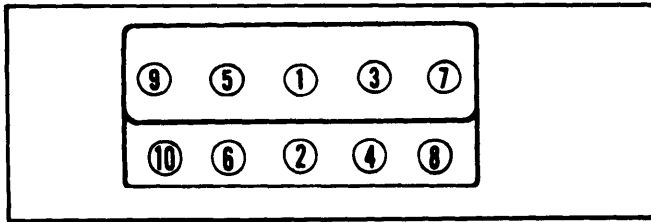

Fig. 2 Cylinder Head Tightening Sequence
2) Install cylinder heads and bolts. Tighten head bolts in two steps. See *Tightening Specifications*. Tighten bolts in sequence shown in illustration (see Fig. 2). Reverse removal procedure to complete installation.